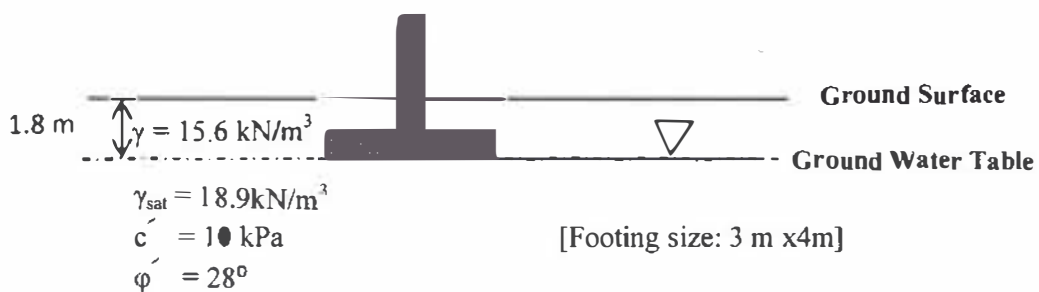

Figure 2
2. For the individual shallow footing (Figure 2), calculate the net ultimate bearing capacity, if eccentricity along footing width is 0.38 m. The load is vertical.